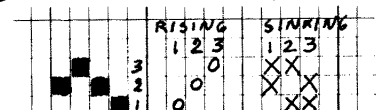
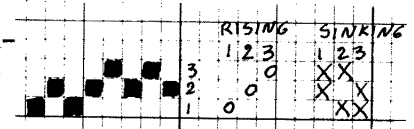

Fig. 6
Fig. 7
6. KROKBRAGD. A 3 harness type of boundweave using the draft of Fig. 6 in 3 colors, A, B, and C. A treadling unit consists of:
An extended 3 harness twill allows for a greater number of narrow vertical lines in the pattern. Draft of Fig. 7 is used for this. The tie-ups at Fig. 6 still are used.